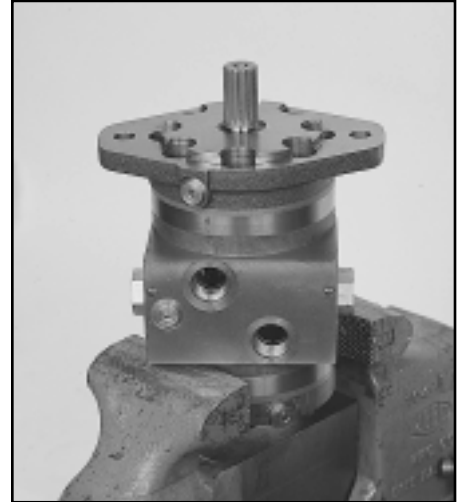

Figure D1
1. Mount the motor in a soft jawed vice, shaft up, clamping on the cover assembly. Remove manifold port o-rings if applicable. SEE FIGURE D1